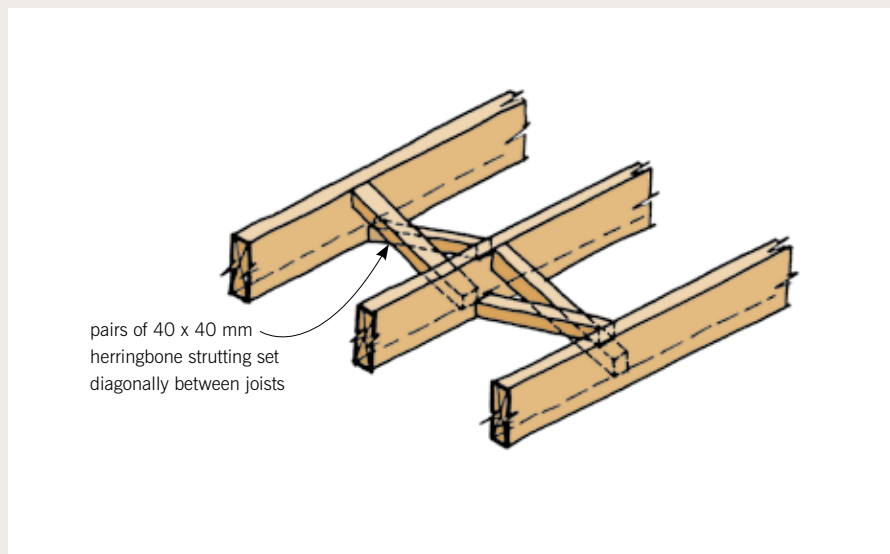

Figure 2: Herringbone strutting.
- pairs of 40 x 40 mm diagonal timber herringbone struts fitted between the top and bottom edges of the joists in opposite directions between adjacent joists (see Figure 2).